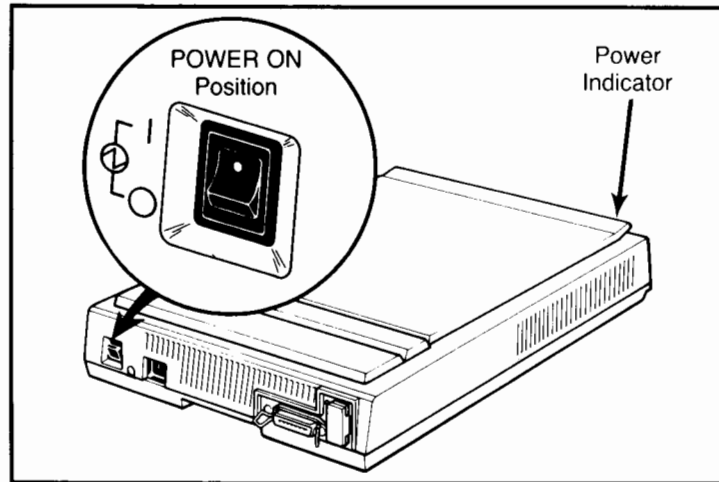

Figure 2-10. Turning on ScanJet
4. Plug the power cord into an alternating current (AC) outlet. Plug in the rest of your computer system.
5. Turn ScanJet's power switch on. See Figure 2-10. The power indicator on the front of ScanJet should be lit.